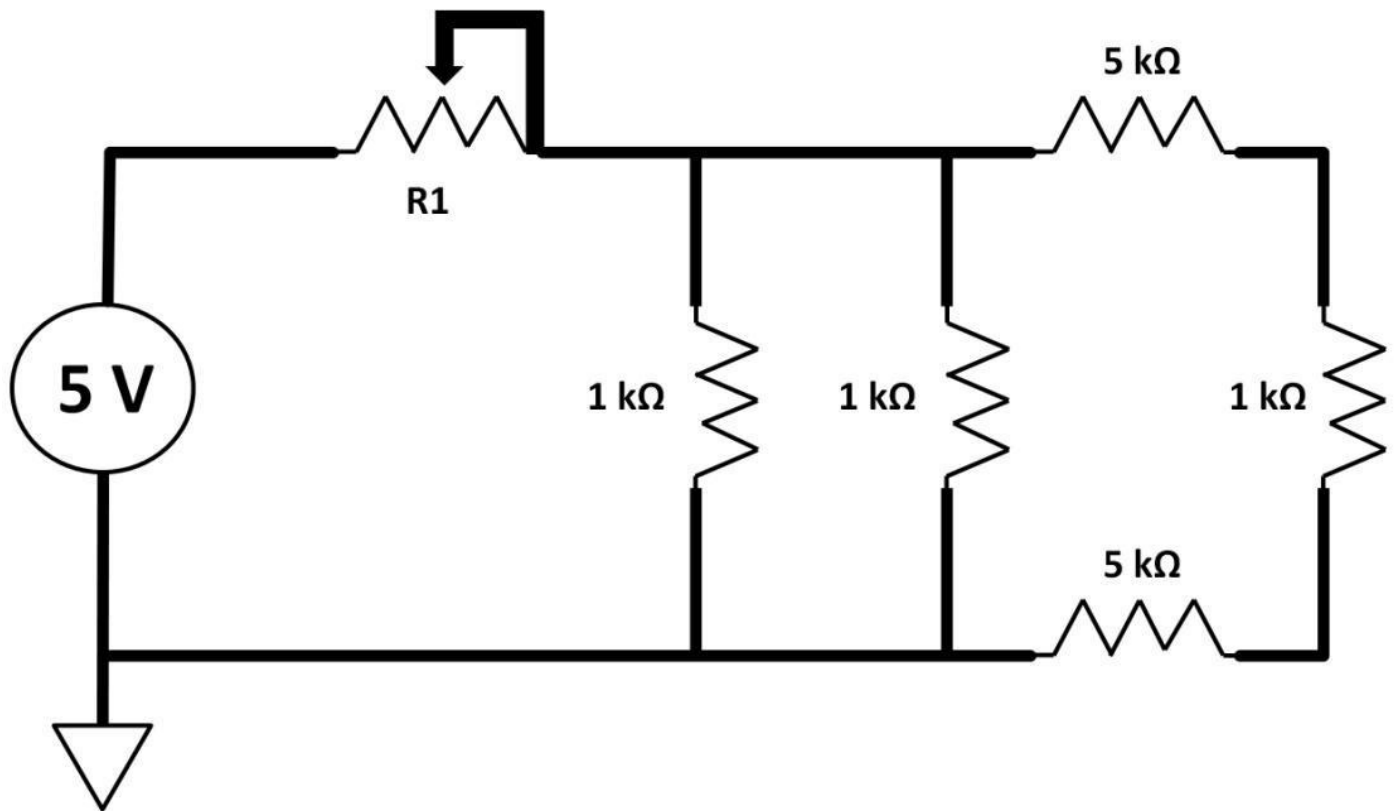
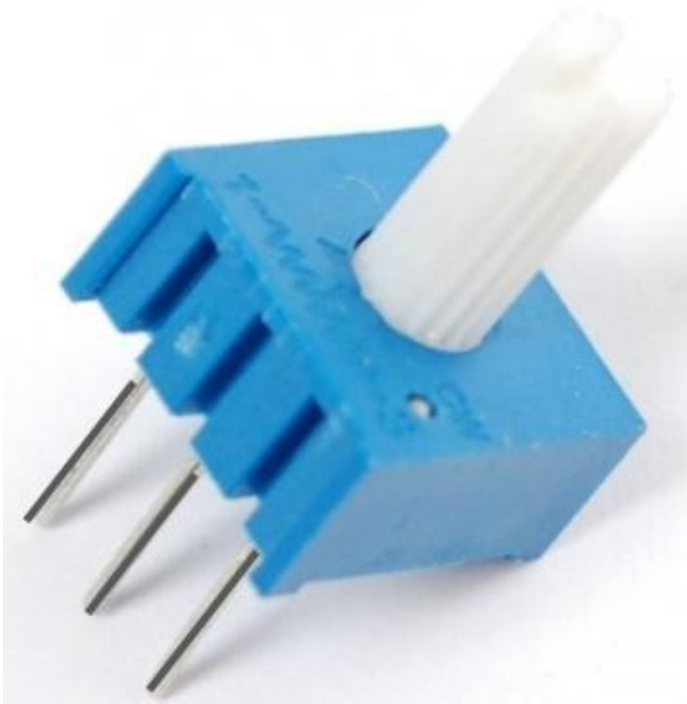

Figure 1.39a: Current flow in different branches
Figure 1.39b: Potentiometer
6) What is the power in Watts from the circuit you designed in problem 5? 7) Refer to the circuit below in figure 1.39a. R1 is a variable resistor symbol (potentiometer or POT) in which users can adjust resistances by manually turning a knob. Figure 1.39b is a 10 k Ω POT with a body size of 9.5 mm X 9.5 mm X 4.9 mm. You can view the potentiometer as a resistive divider where the top, middle, and bottom pins are measured points. If you connect the top and bottom pins to your circuit, a full scale 10 k Ω is obtained. By connecting the top and middle pins to the circuit, resistance can be varied by turning the knob. The range of resistance would be from 0 Ω to 10 k Ω . Calculate current flow in each branch, assuming that the potentiometer is at mid scale.